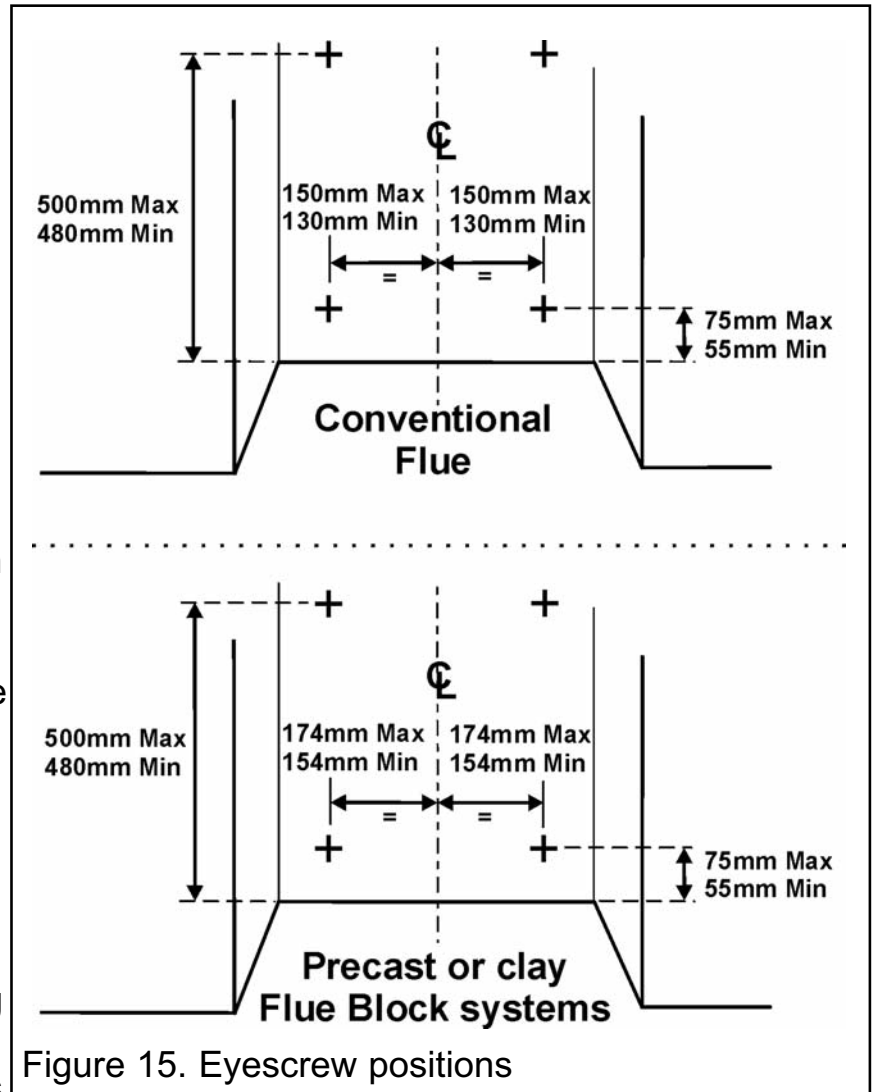

Figure 15. Eyescrew positions
**2.** Drill four holes in the rear wall of the fireplace for the wall plugs 'F'. The holes should be drilled within the range of positions shown in figure 15 using a suitably sized masonry drill bit for the wall plugs supplied. The holes should be equidistant each side of the centre line of the fireplace to ensure that the appliance finishes centrally in the opening when tension is applied to the cables. **Never use wall plugs other than those supplied.**